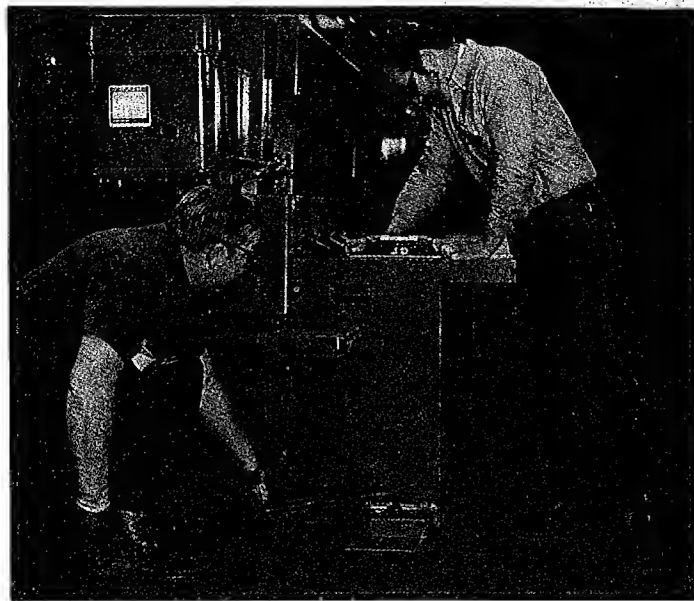

FIGURE 8
Each end or corner of the shear can be raised or lowered by use of the leveling screws in each housing foot. Refer to Figure 8. Use at least a two foot length of pipe on the proper size hex socket key in the leveling screws. Use the jacking lugs provided on the 62 and 100 Series shears. All shears shipped prior to May 1948 were not equipped with leveling screws or jacking lugs, so it is necessary to drive steel wedges under the housings to raise them for shimming.
4. Level the shear front-to-back with the level crosswise (front-to-back) on the table as shown in Figure 8. Start with the level at the right end of the shear. Insert or remove shims under the front or rear foot of the right housings as required, using the leveling screws to raise or lower the shear.